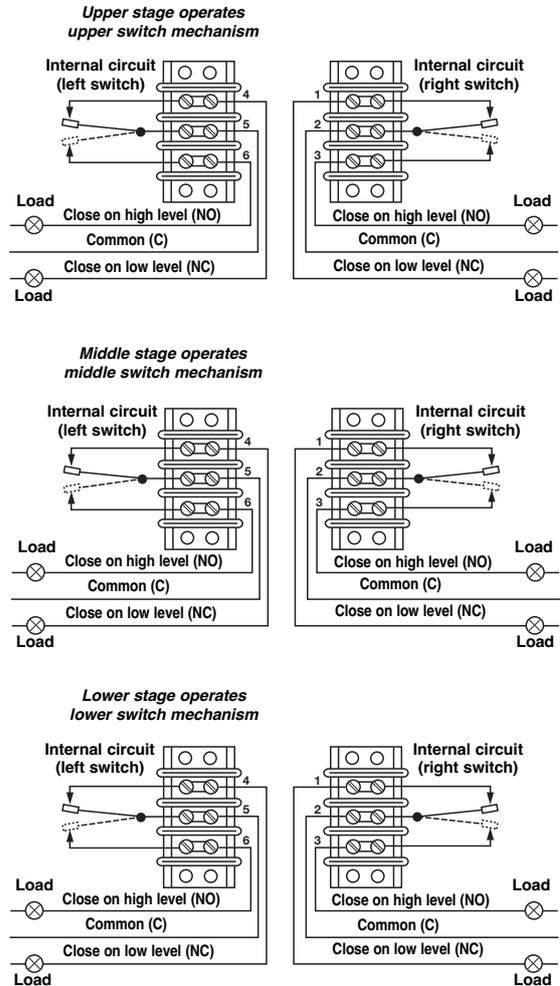

Figure 20
1. Rising level closes contacts 5 & 6 and 2 & 3, see Figure 20.